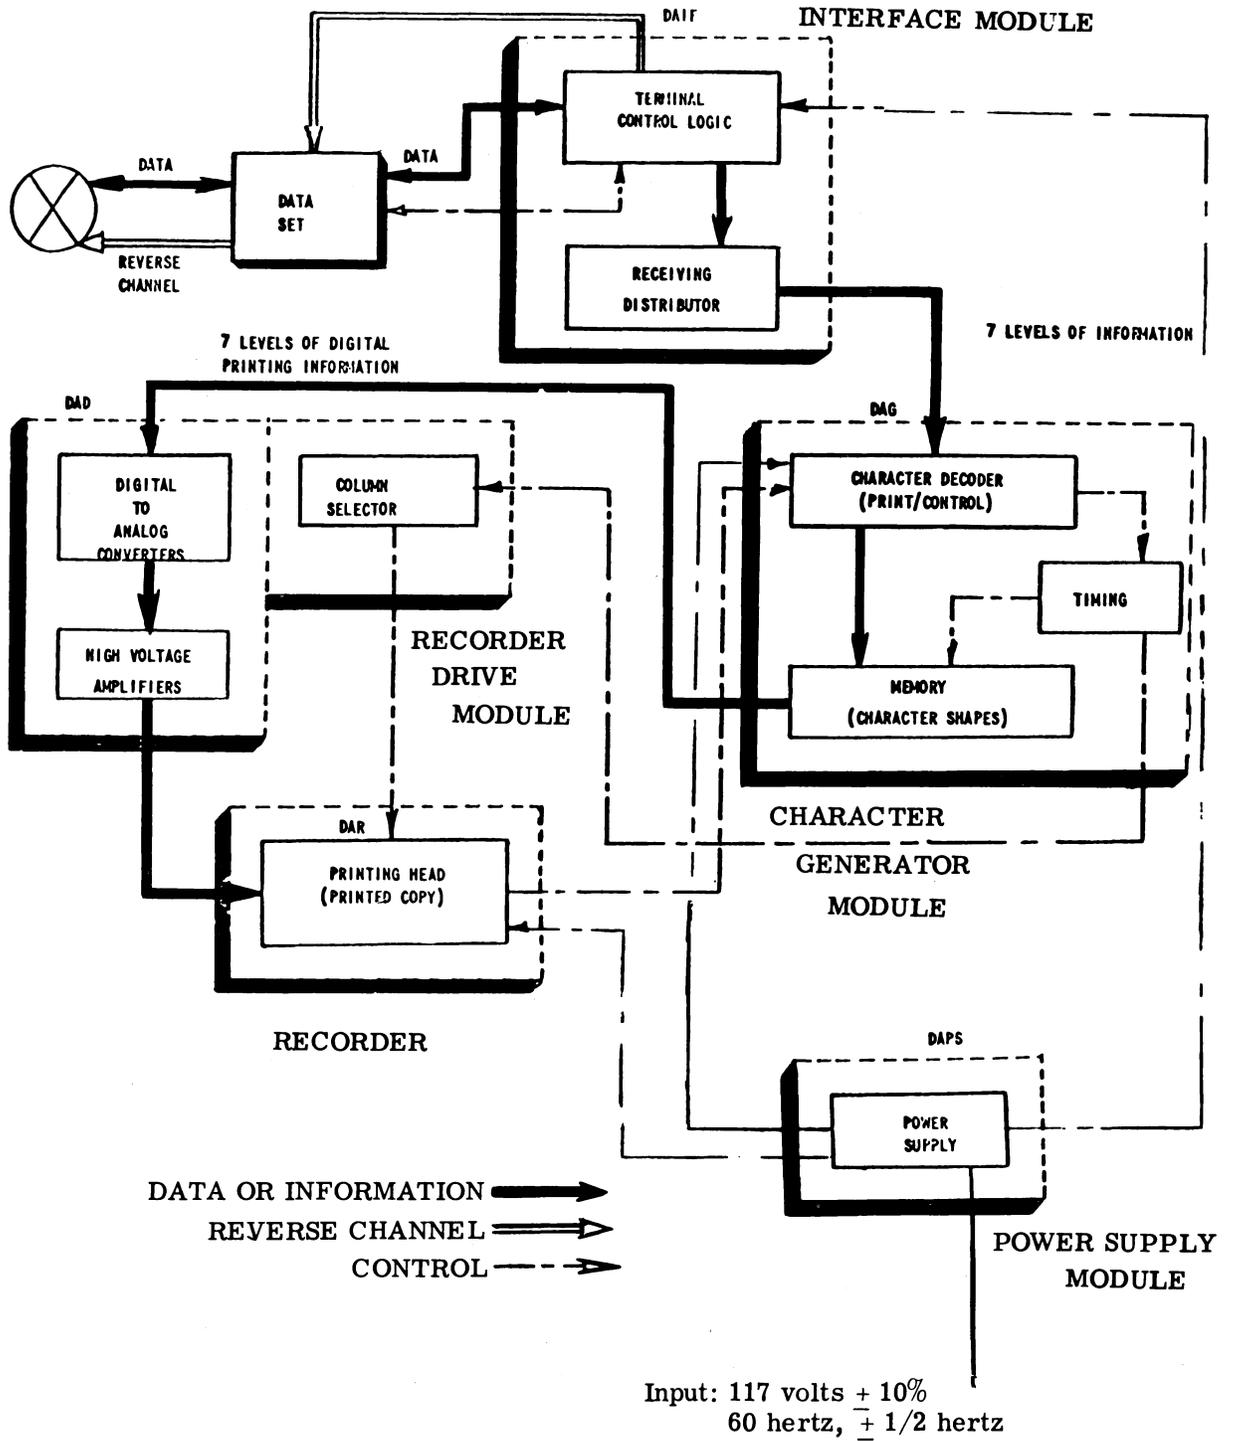

Figure 15 - Block Diagram of Drive and Control Circuits
4.07 With reference to the brief description of the incoming signal as outlined above and a reference to the block diagram shown in Figure 15, the signal path through the three major modules may be reviewed. This will cover the printer drive module, character generator module, and the interface module. The multivoltage power supply, in addition to furnishing the ac and dc voltages for the various modules and assemblies, houses the interlock relays and certain resistors and components of associated modules. Since no direct signal path is involved in the fourth module (Figures 2 and 15), this circuit will not be discussed at this time.